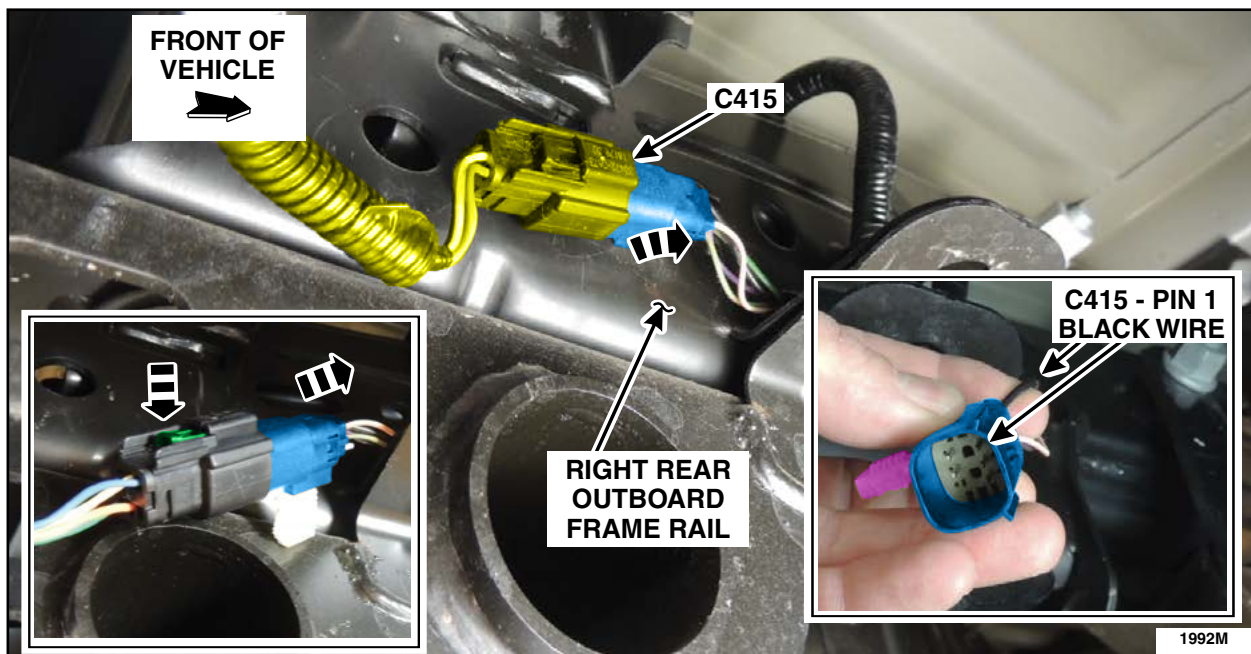

FIGURE 8
8. Working from the rear of the vehicle, disconnect connector C415 (Without BLIS) or connector C4484 (With BLIS) located on the right rear outboard frame rail. Then Locate pin 1 (Black (BK) wire). See Figure 8.
12. Connect connector C415 or connector C4484 and reattach the connector to the right rear frame rail. See Figure 8.